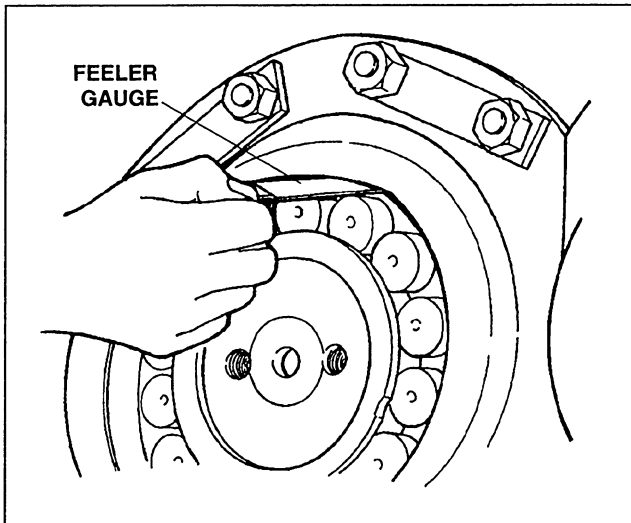

Figure 4-8. Checking Installed Bearing Clearance
C. Using feeler gauge as shown in Figure 4-8, check the installed clearance between the top bearing roller and outer race. It should be as shown in Table 4-3.
3. Place anti-seize compound (refer to Table 3-1, Item 3) on the bearing journals of shaft (14) and slide an assembled bearing housing (6) on the **gear end** of the shaft. It may be necessary to tap the bearing housing with a babbitt hammer to align it so it will slide on the shaft.